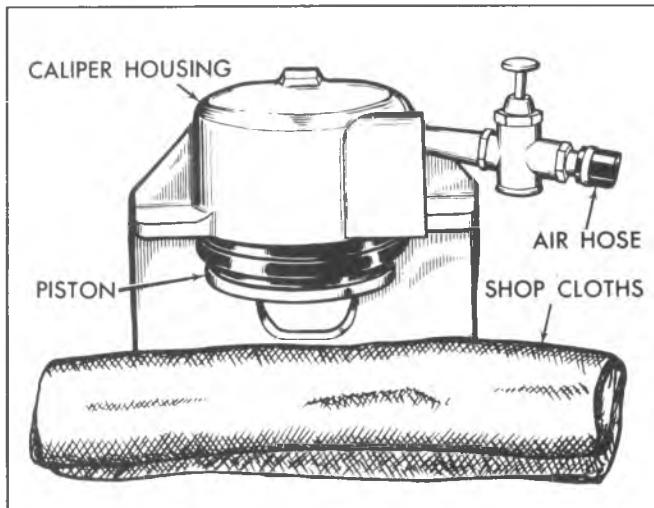

Fig. 5-40--Removing the Caliper Piston
- Using clean shop cloths, pad the interior of the caliper and remove the piston by directing compressed air into the caliper inlet hole (fig. 5-40).